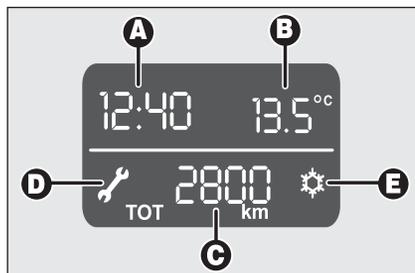

fig. 22
- Clock **A**-fig. 22;
- Scheduled servicing (symbol  **D**-fig. 22).
- Symbol of possible presence of ice on the road (symbol  **E**-fig. 22).